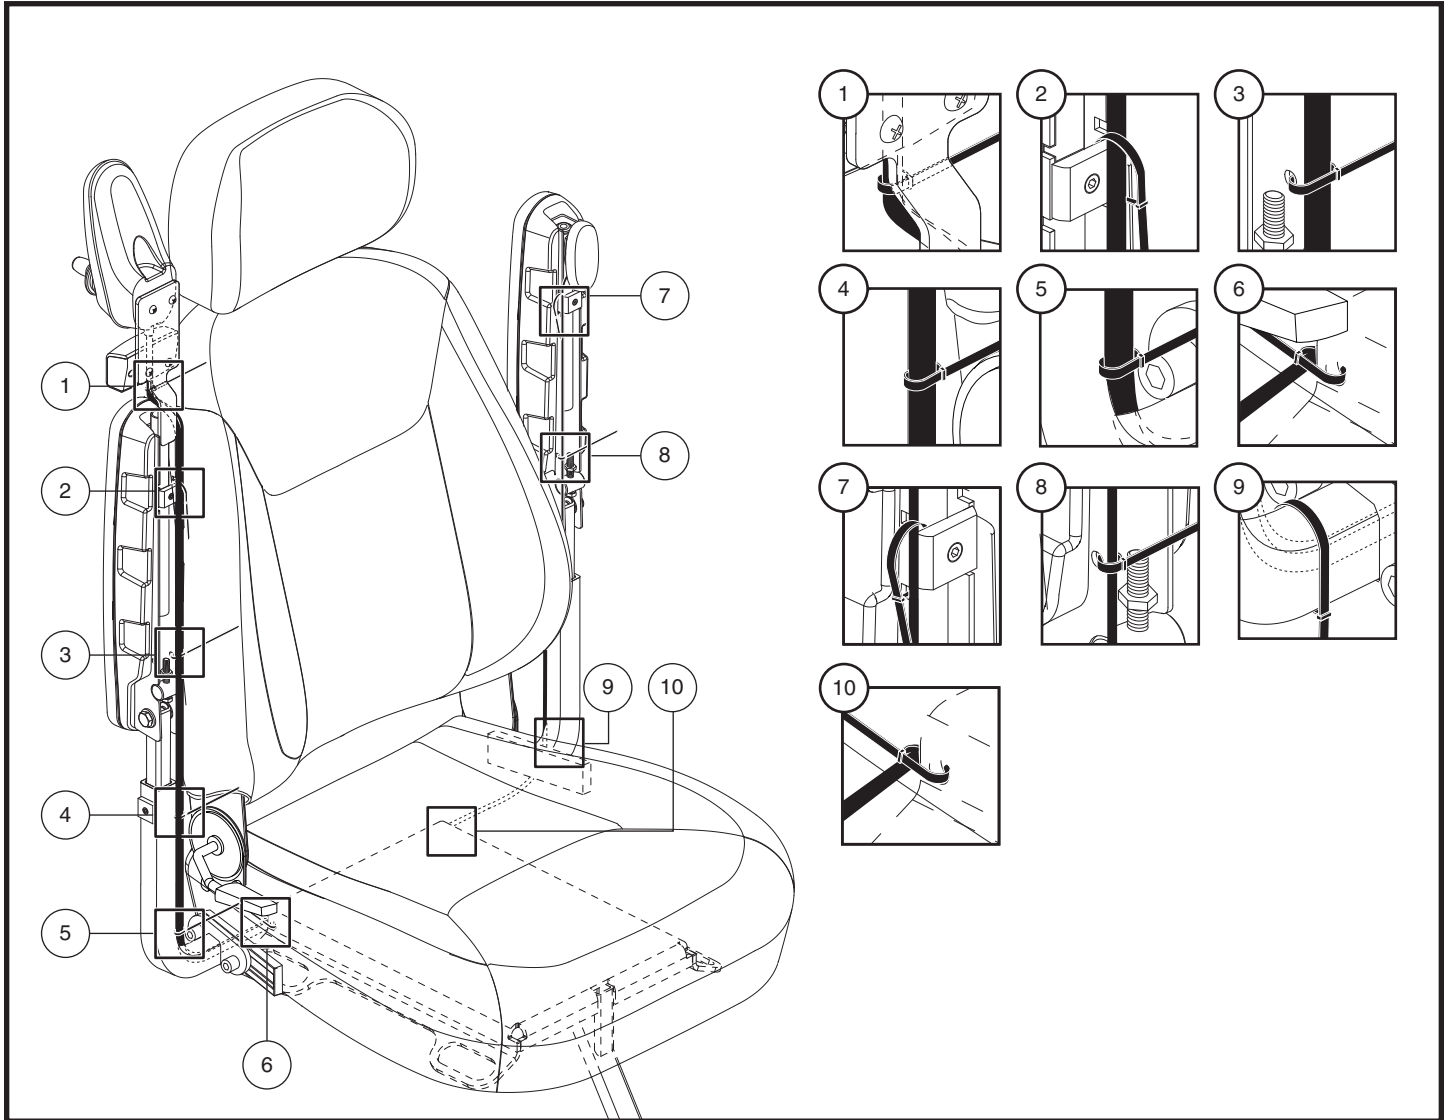

Figure 10. Controller Harness Routing
17. Secure the harnesses on the armrest with the supplied wire-ties as shown in **figure 10**.
19. Secure the harnesses along the armrest receiver and seat plate with supplied wire-ties as shown in **figure 10**.
**WARNING! Ensure that all harnesses are properly routed as shown in figure 10. Improper routing can cause damage to the light switch, controller or other electrical components.**
2. For locations 1 through 10, tighten the wire-ties into place according to the proper harness routing as shown in figure 10.
9. Route the controller harness along the seat frame and secure with wire ties. See **figure 10**.